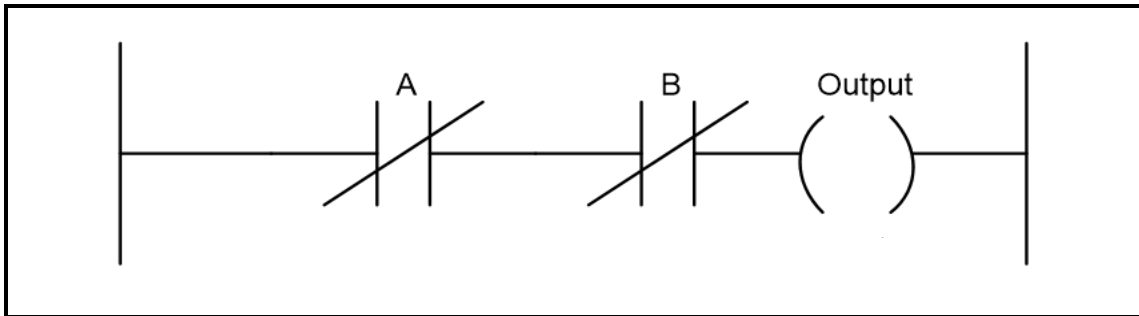

FIGURE 7.2: LADDER LOGIC
7.2 FIGURE 7.2 below shows the ladder logic of a logic gate. Answer the questions that follow.
7.2.1 Name the logic gate represented in FIGURE 7.2 above. (1)
7.2.2 Draw the equivalent logic gate symbol of FIGURE 7.2 above. (3)
7.2.3 FIGURE 7.2.3 below shows two input states of the circuit in FIGURE 7.2. Complete the truth table in FIGURE 7.2.3 by writing down only the state of the output in the ANSWER BOOK.